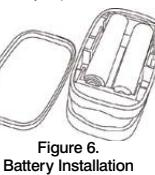

Figure 6. Battery Installation
1. Refer to Figure 6. and insert the 2 AAA size batteries properly in the right direction.